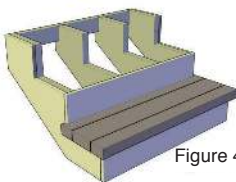

Figure 4
- Face-screw the back of each final tread board within 3/4" of the ripped edge (fig 4). Screws will be covered by risers.